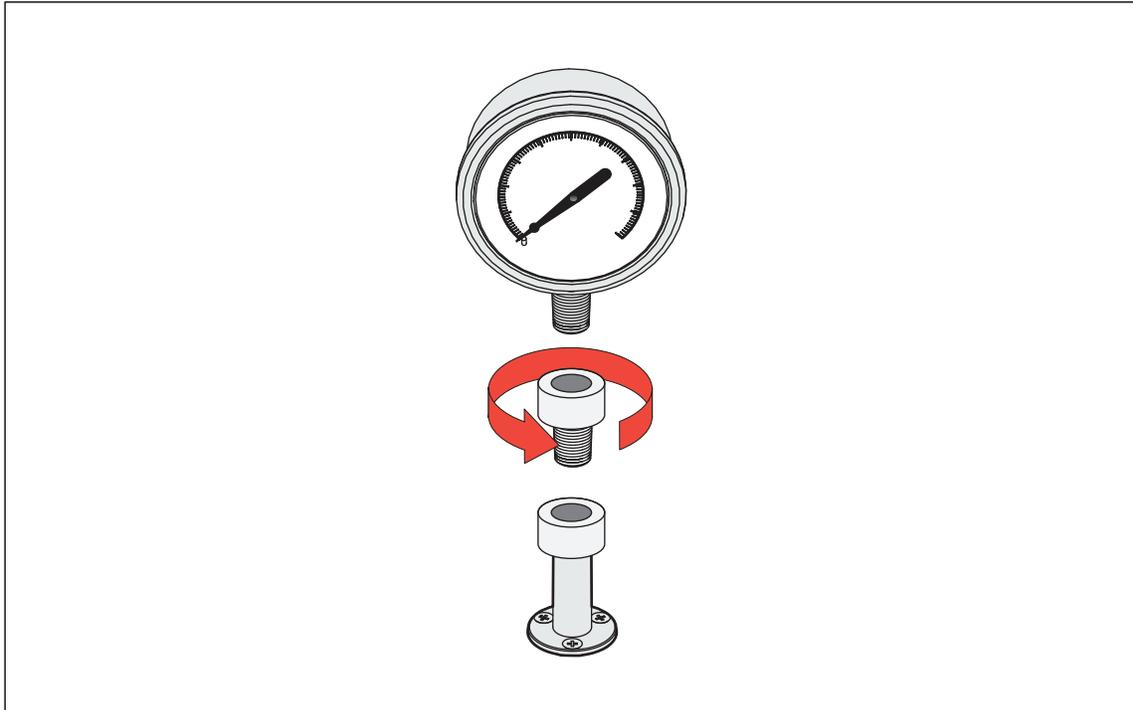

Figure 11. Screw on Gauge Adapter
2. Screw assembly down **COUNTER-CLOCKWISE** on to test port, see Figure 11.